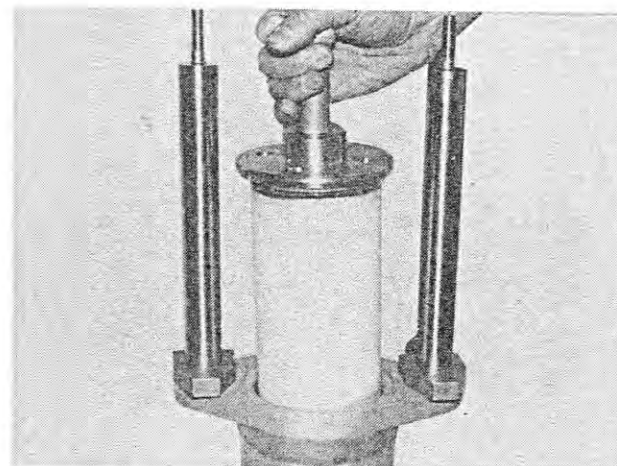

Fig. 224
24. Remove the piston from the storage cylinder (Figure 224) and clean the cylinder.